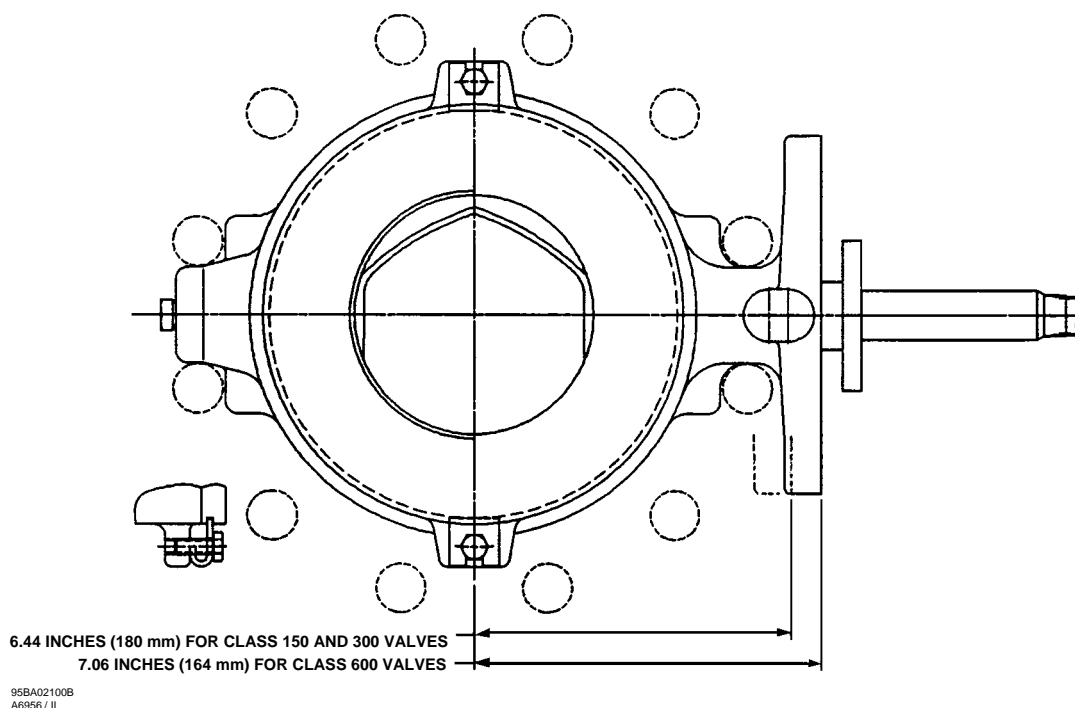
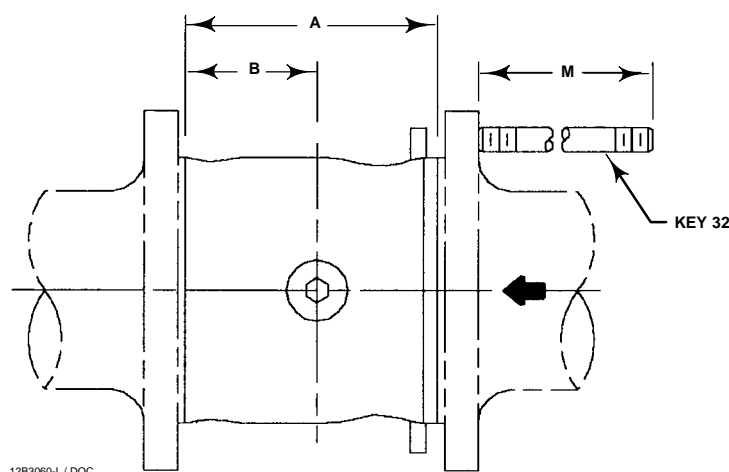

Figure 4. Design V200, Size 6-Inch, ANSI Class 600 Valve Detail
Figure 5. Design V200 Dimensions and Required Clearances for Installation
Stud length dimensions are shown in Figure 5 for the seal protector ring end of the valve. For Design V200, ANSI Class 600, the dimension from the center line of the valve bore to the mounting flange face is larger than a Class 150 or 300 valve. Refer to figure 4 for the Class 600 face-to-face dimension for size 6-inch valves only.
1. Install the Design V200 valve using long studs (key 32, figure 5) to connect the two pipeline flanges. Refer to figure 5 for the size of studs required. Lubricate the studs with Never-Seez Pure Nickel Special or equivalent lubricant.